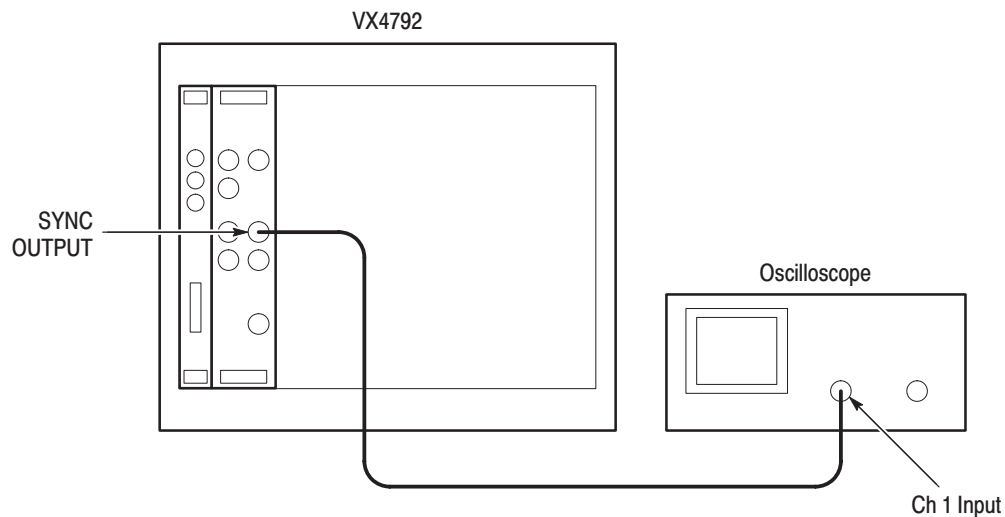

Figure F-16: SYNC OUTPUT and MARKER OUTPUT Amplitude Initial Test Setup
1. *Install test setup and set test equipment controls (see Figure F-16):*